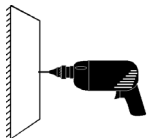

Figure 1
- Drill a single hole using a 4mm (5/32") diameter drill for timber walls, or a suitable wall plug for brick and concrete walls (Figure 1).